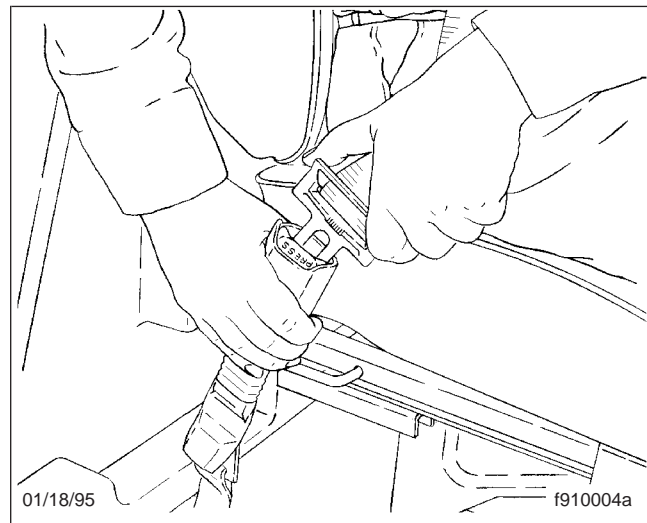

Fig. 3.14, Fastening the Three-Point Belt
2. Fasten the three-point seat belt by pushing the link into the buckle until it latches. Give the belt a tug at the buckle. If the buckle unlatches, repeat this step. If the problem continues, replace the three-point seat belt. See Fig. 3.14.